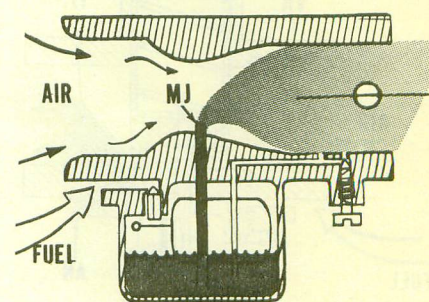

Fig. 1-6—View of carburetor showing disc type throttle valve completely open for high speed operation.
**THROTTLE VALVES.** In order to vary the speed, a valve is installed between the fuel nozzle and engine which limits the volume of combustible mixture available to the combustion chamber. When less mixture is available to the combustion area, there will be less expansion resulting in less rpm and less power. The two types of throttle valves commonly used are the disc (butterfly) valve (Fig. 1-6) and the variable venturi (slide) valve (Fig. 1-9).
**DISC (BUTTERFLY) VALVE.** A typical disc type throttle valve is shown in Figs. 1-6, 1-7 and 1-8. As the throttle disc is turned, the opening of the throttle bore is decreased. When